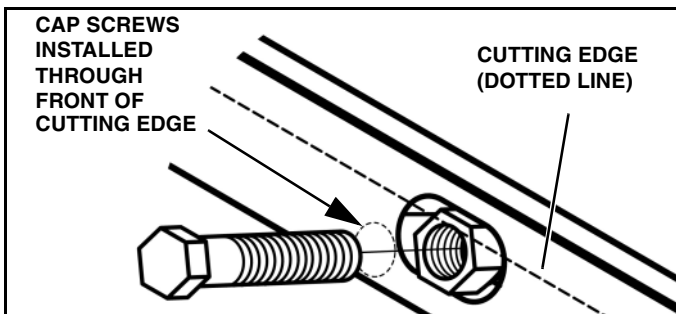

Figure 1-48
7. Insert and hand tighten one cap screw with nut in either end of the of the cutting edge. (See Figure 1-48).